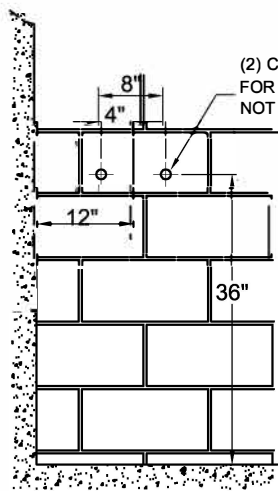

Fig. 1
2. Drill the supply holes for the hot and cold sides of the valve as per Fig. 1